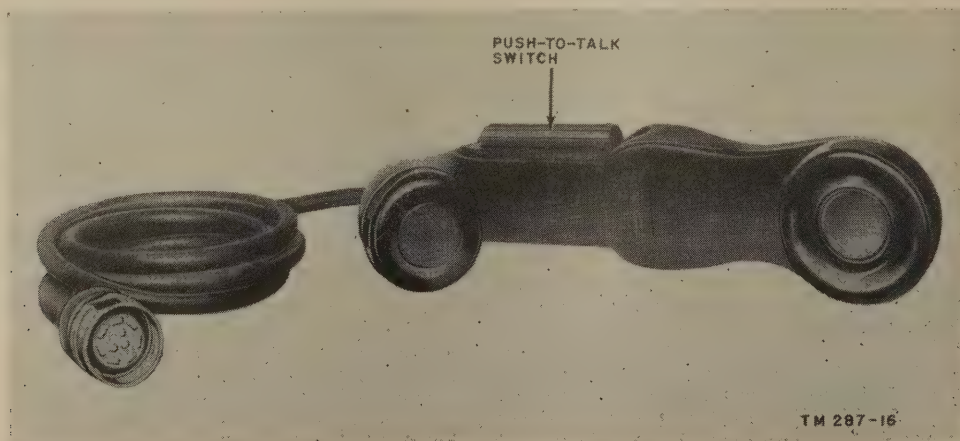

Figure 15. Handset H-33/PT.
e. *Handset H-33PT.* Handset H-33/PT (fig. 15) is a combination microphone and receiver with a push-to-talk switch and a connecting cord. Microphone impedance is 40 ohms; receiver impedance is 300 ohms. The push-to-talk switch provided is a double-pole single-throw switch. The cord is 5 feet long and is terminated in a 10-pin audio connector which will mate with the audio receptacles on the receiver-transmitter or with the audio receptacles on either of the control units.